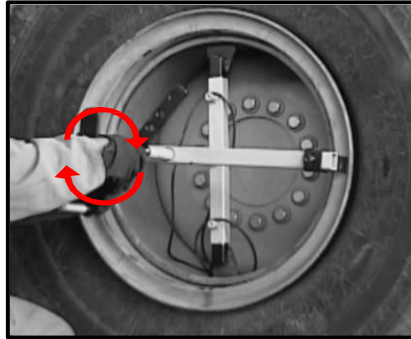
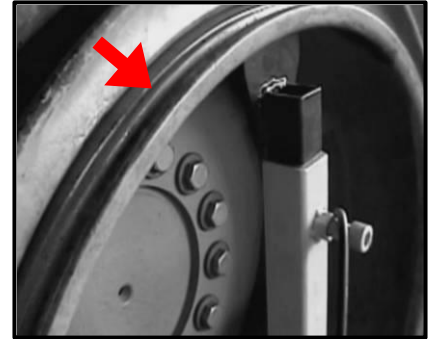

FIGURE 5a
FIGURE 5b
5. Turn the handle clockwise (**See Figure 5a**) onto the threaded center rod, simply turn while standing to one side until the push feet press against the rim flange, pushing the rim flange and bead of tire passed the "O" Ring groove allowing easy installation of the "O" Ring (**See Figure 5b**).